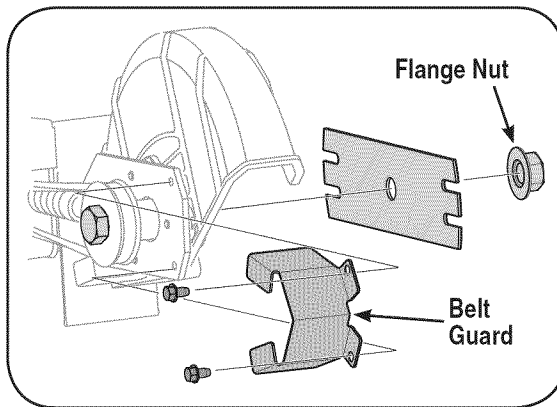

Figure 11
4. Use two wrenches (one wrench to prevent the hex bolt head from spinning and the other to remove the flange nut) to remove the edger blade. Refer to Figure 11.